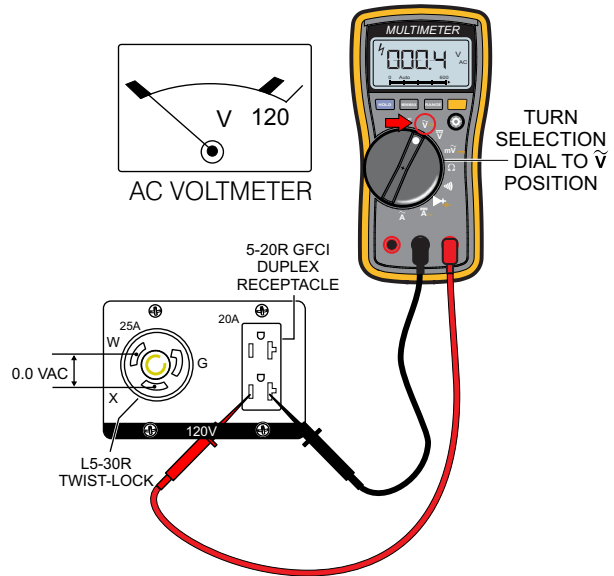

Figure 44. 120V Twist-Lock/GFCI Receptacles (GFCI Test)
5. Use an external voltmeter as shown in Figure 44, and verify that no voltage (zero) is present at the 120V twist-lock and GFCI duplex receptacles.